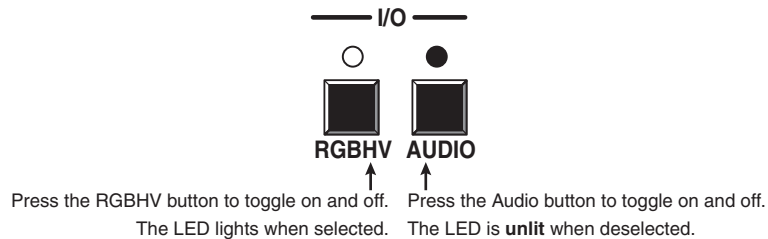

Figure 3-10 — Select RGBHV only
2. To select video only for the tie, if necessary, press and release the RGBHV button and/or Audio button (figure 3-10).